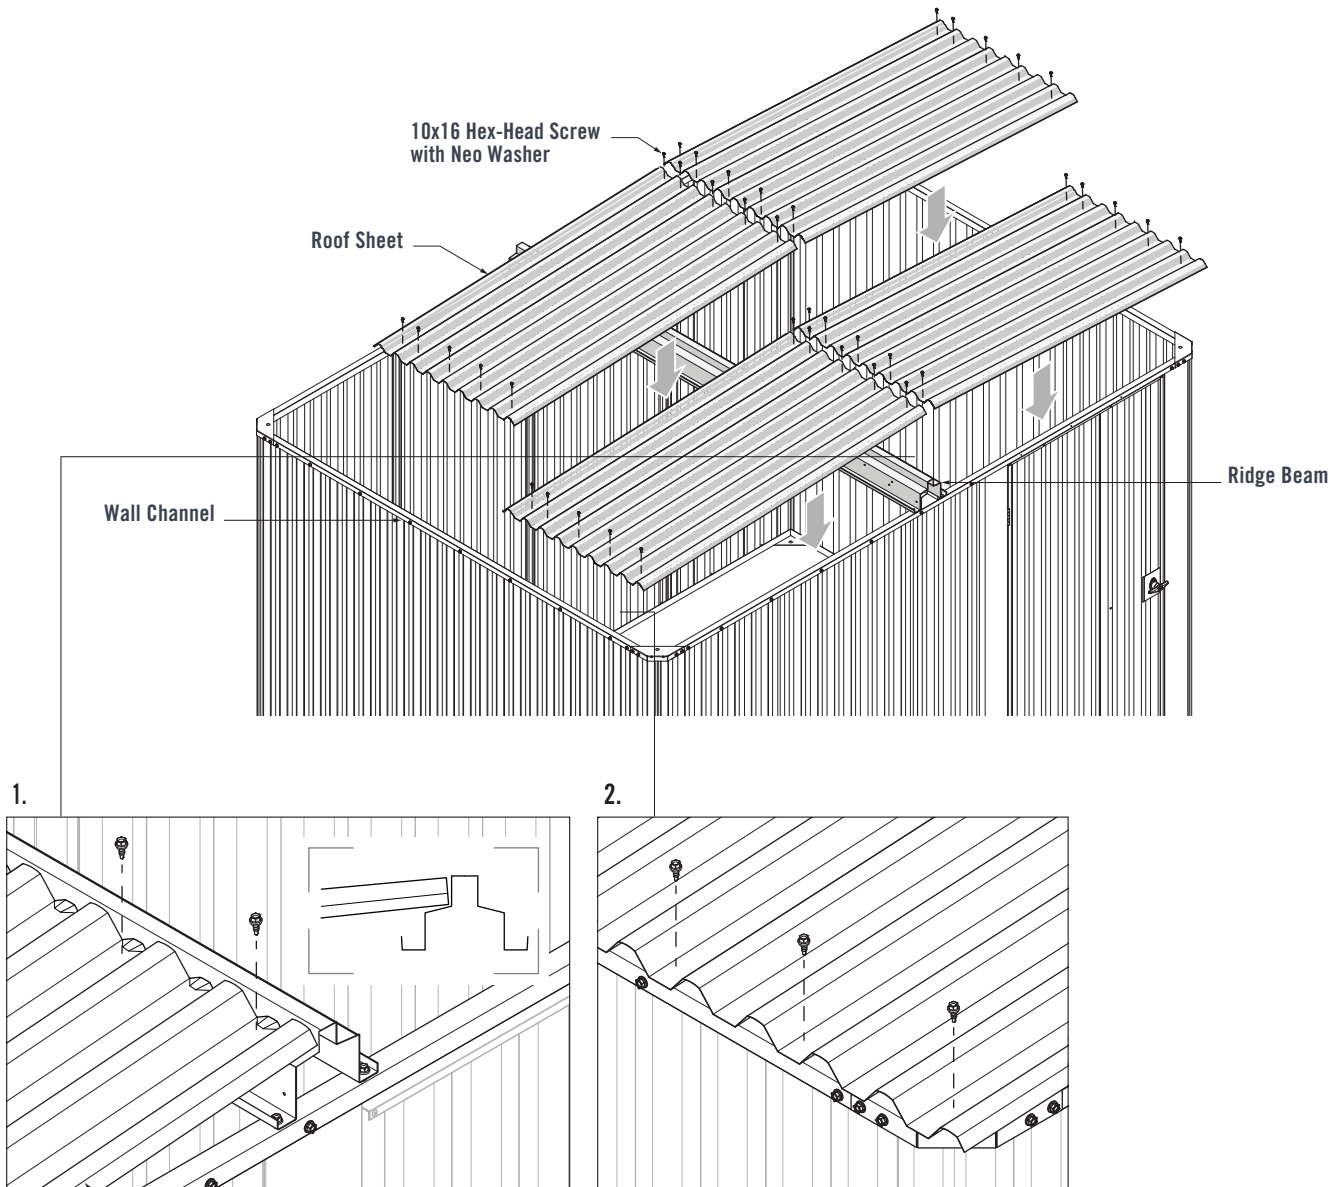

FIGURE 7.3
Refer to Sheet layout in Figure 7.2. Lay a Roof Sheet onto the Ridge Beam and Wall Channel, ensuring the overlap end of the Roof Sheet is facing the front of the shed (Figure 7.3).
1. Ensure the end of the Roof Sheet is in-line with the end of the Ridge Beam. Fasten five 10x16 Hex-Head Screws with Neo Washers through the pans of the Roof Sheet and into the Ridge Beam (Figure 7.3).
2. Fasten five 10x16 Hex-Head Screws with Neo Washers through the pans of the Roof Sheet and into the Wall Channel (Figure 7.3).